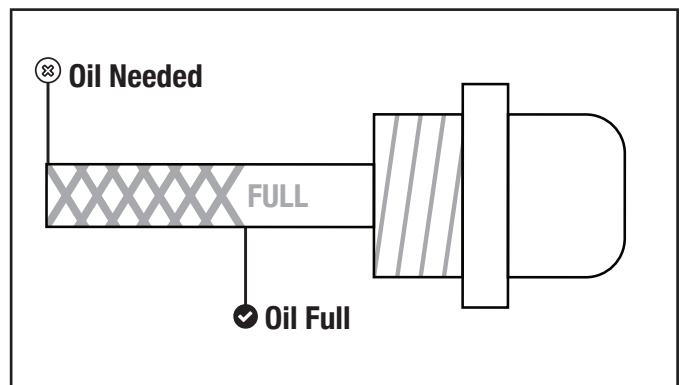

Figure 19B
3. Insert the oil cap/dipstick into the oil filler neck but do not screw it in, then remove it to check the oil level (Fig. 19B).
4. If the oil level is near or below the lower limit mark on the dipstick, remove the oil cap/dipstick, and fill with the recommended oil to the upper limit mark. Do not overfill (Fig. 19B).